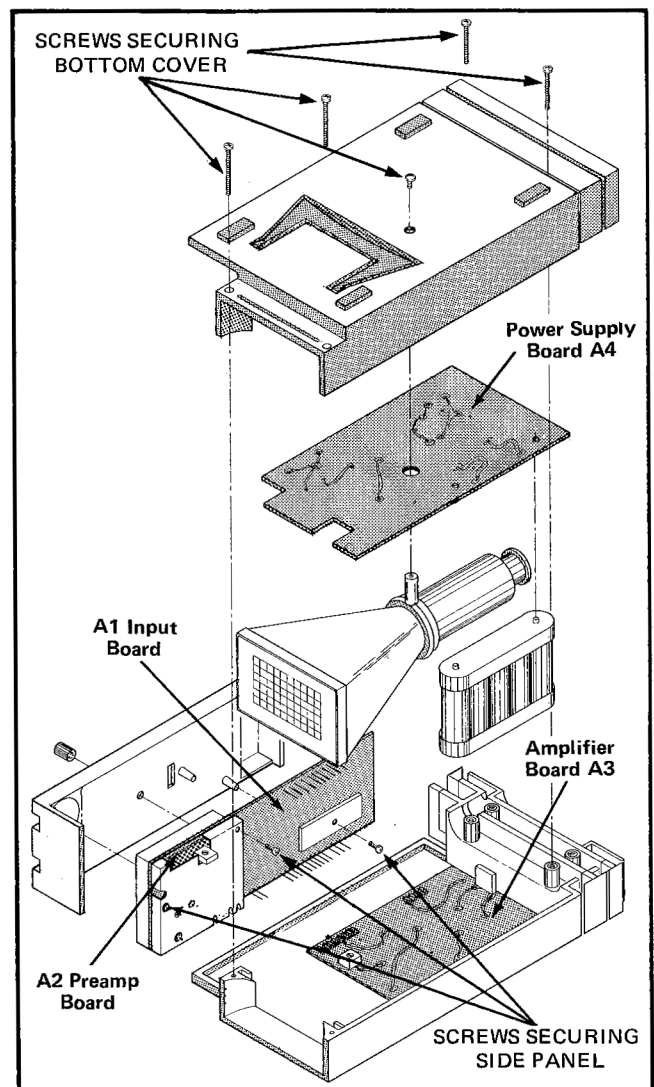

Fig. 7-1. Location of circuit boards and securing screws.
**Disassembly.** To gain access to the interior of the instrument, unwind both the power cord and the attached probe cord from the rear of the instrument. Remove the five screws in the bottom cover of the instrument. See Fig. 7-1. Gently separate the bottom cover from the instrument and lay aside. The Power Supply circuit board with the batteries can be lifted up and pivoted out of the way. Most of the internal workings of the instrument are now accessible.